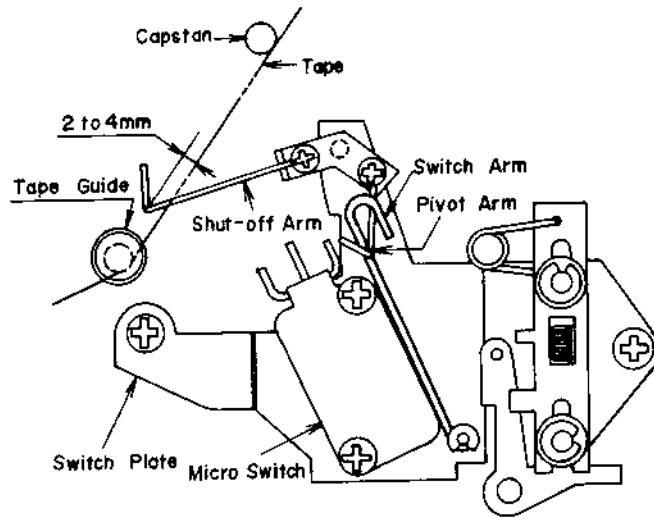

Fig. 1-15
**(10) SHUT-OFF MECHANISM ADJUSTMENT**
- a) Adjust pivot arm so that the position of the shut-off arm is 2 to 4 mm from the tape surface when the micro switch is depressed by the switch arm. (Refer to Fig. 1-15)